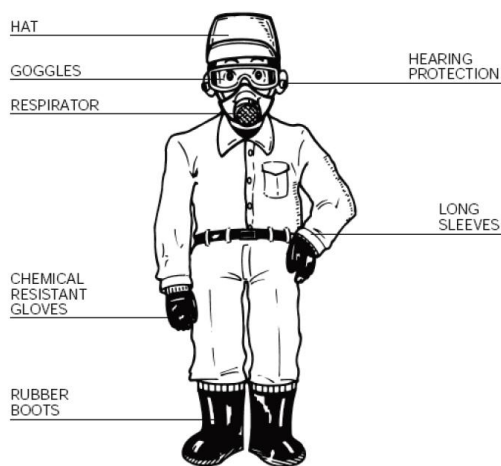

Fig 11
(1) Read this manual carefully. Be sure you understand how to operate this machine properly before you use it.
(2) Protective clothing (Fig.11)
(3) Following personnel can not use the machine.